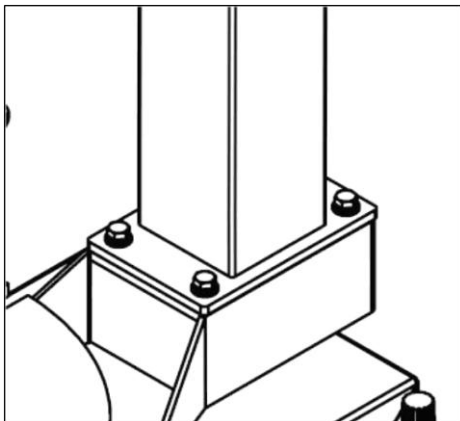

FIG4
3.2.1 After un-package the package carton, take out accessory boxes, and column assembly. And position the body according to the FIG4. Remove the bolts, elastic washer and plate washer on the body.
3.2.2 Place the column on the body. The direction of the warning label is forwards. Make the holes on the column base plate align to thread holes on the body. Once again assemble the removed the bolt (3.2.1), elastic washer and plate washer and plate washer removed in 3.2.1. The torque is 70 N·M (FIG4) Use torsion wrench to tight.